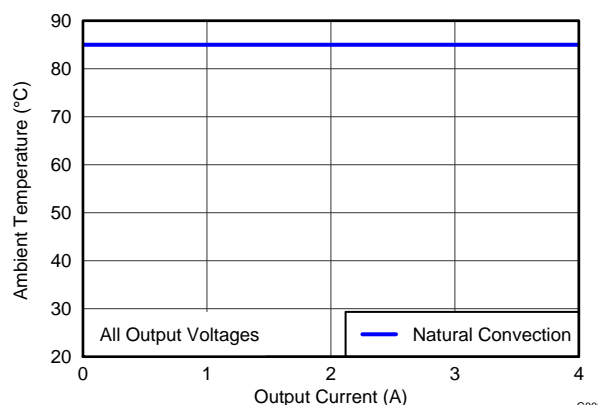

Figure 4. Safe Operating Area
- (2) The temperature derating curves represent the conditions at which internal components are at or below the manufacturer's maximum operating temperatures. Derating limits apply to devices soldered directly to a 100 mm x 100 mm double-sided PCB with 1 oz. copper. Applies to Figure 4.